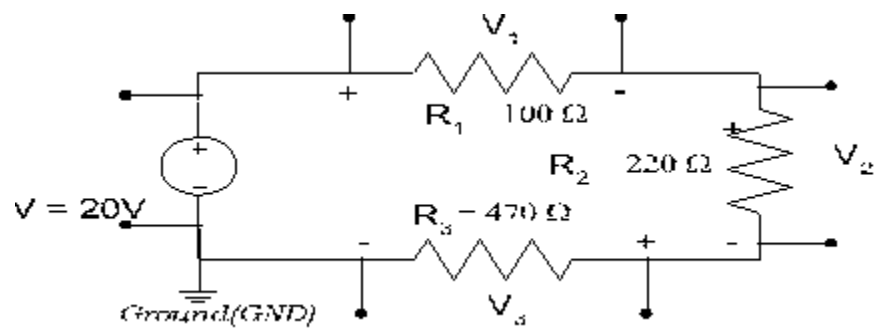

Figure 2.3
4. Now construct the circuit as shown in Fig 2.3. Turn on the DC power supply and set the DC supply to 20V by using Voltmeter.
2. From the data found in Table 2.1, mathematically prove that the current in the series network of figure 2.3 is equal for each resistance.